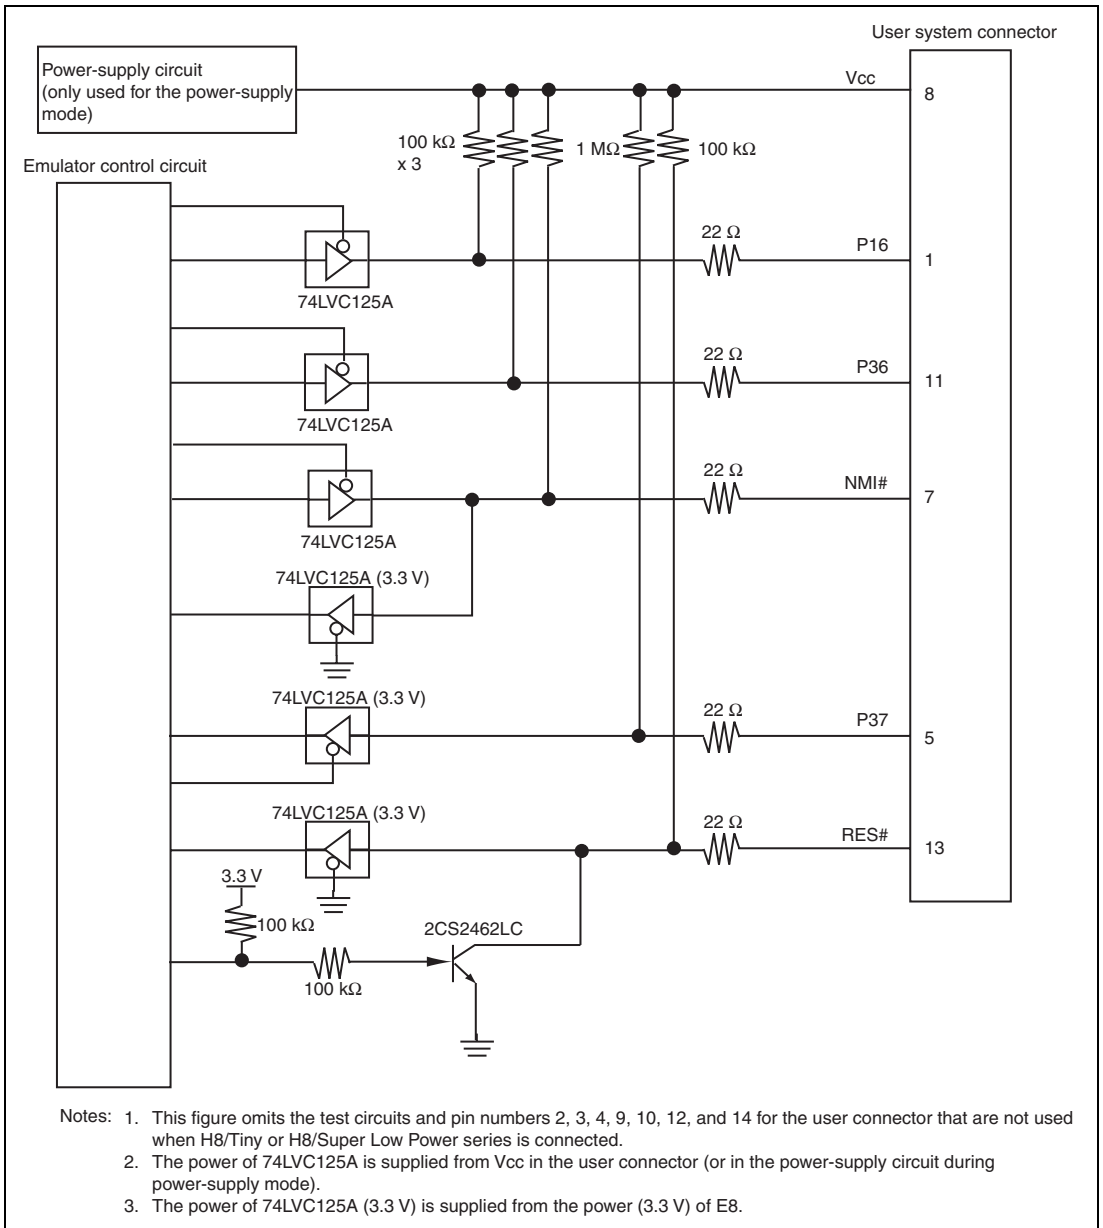

Figure 4.6 Interface Circuit in the E8 Emulator (Reference)
7. Figures 4.6 and 4.7 show the interface circuit in the E8 and E8a emulators, respectively. Use these figures as references when determining the pull-up resistance value.